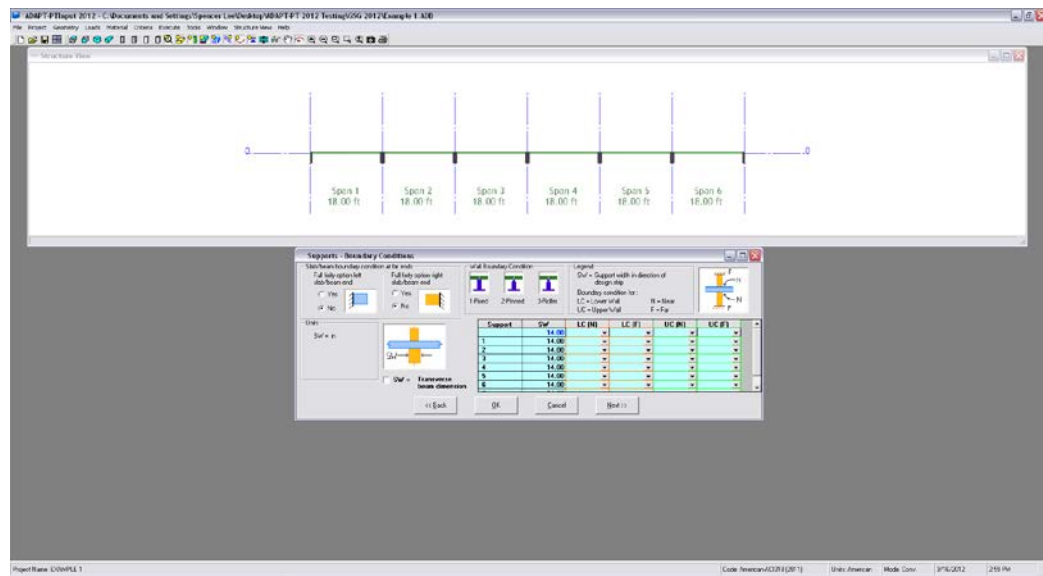

FIGURE 2.1-7
2.1.2.4 Enter Supports Boundary Conditions (Fig. 2.1-7)